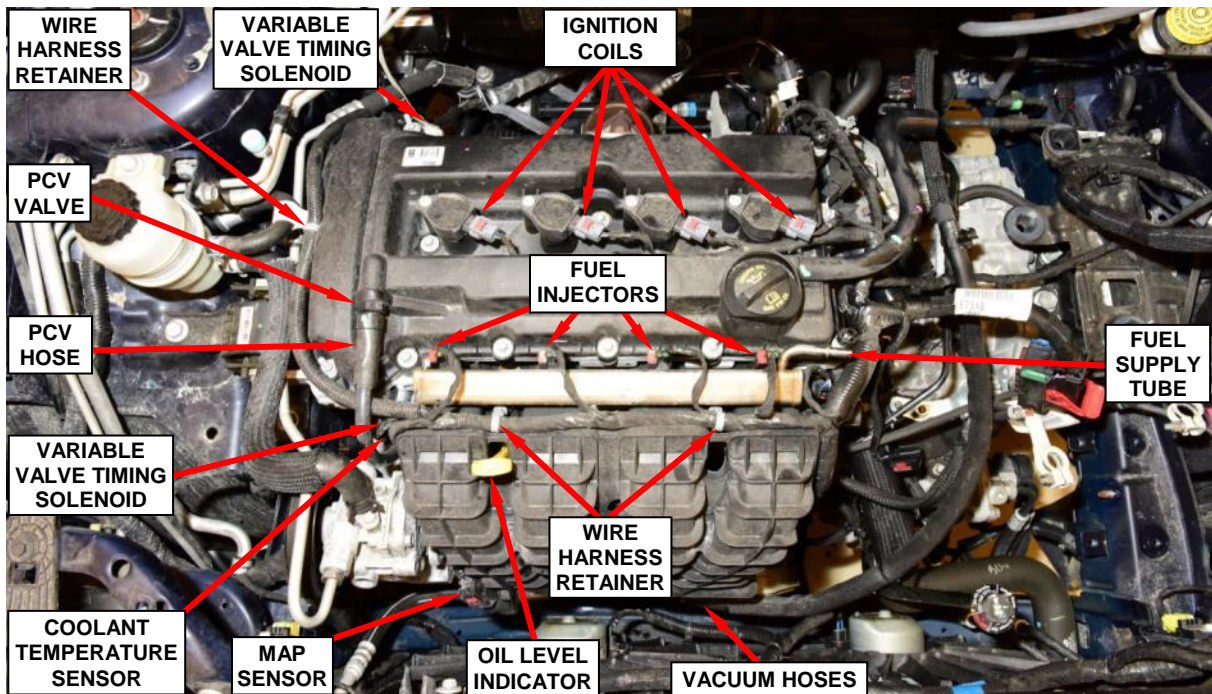

Figure 18 – Engine Electrical Harness
52. Disconnect the Positive Crankcase Ventilation (PCV) hose from the PCV valve (Figure 18).
53. Release the engine wire harness retainer from the valve cover and fuel rail studs (Figure 18).
54. Disconnect the engine wire harness from both exhaust variable valve timing solenoids (Figure 18).
55. Disconnect the engine wire harness from the coolant temperature sensor (Figure 18).
56. Disconnect the engine wire harness from the Manifold Absolute Pressure (MAP) sensor (Figure 18).
57. Disconnect the engine wire harness from the ignition coils (Figure 18).
58. Disconnect the engine wire harness from the fuel injectors (Figure 18).
59. Disconnect the fuel supply tube from the fuel rail (Figure 18).
60. Remove from the engine and save the oil level indicator (Figure 18).
61. Disconnect the two vacuum hoses from the intake manifold (Figures 18 and 19).